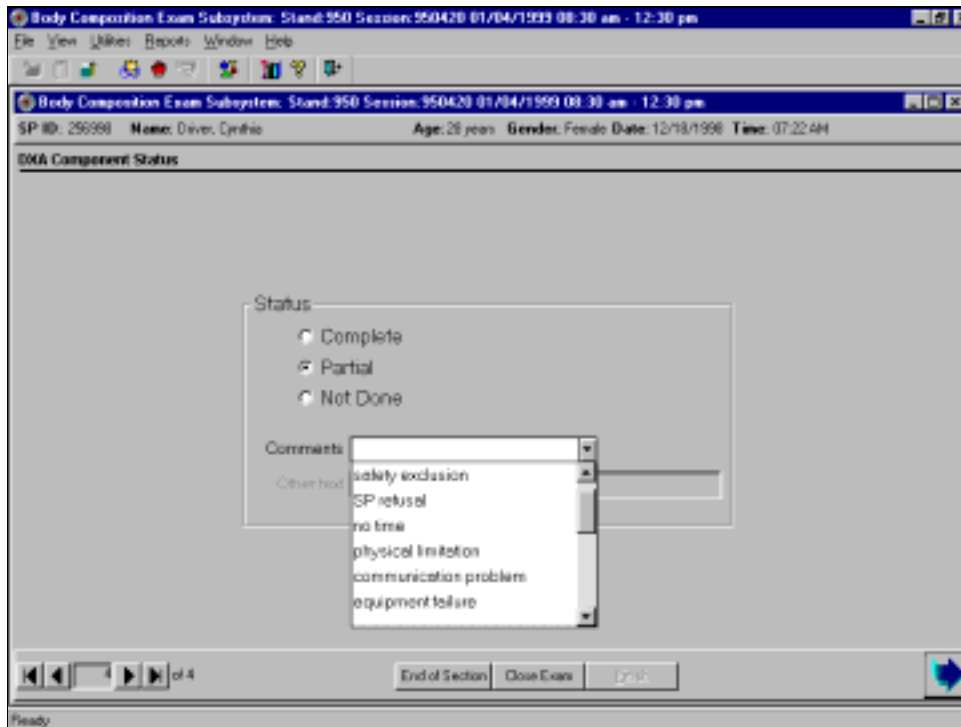

Figure 4-32. DXA component status (1)
- If the scan cannot be completed, the DXA component status will be set to Partial. Select the appropriate comment from the list in the drop-down menu. See Figures 4-32, 4-33, and 4-34.
- If the component status is 'Partial' or 'Not Done,' the system will require a comment to be selected from the drop-down menu. See Figure 4-32.